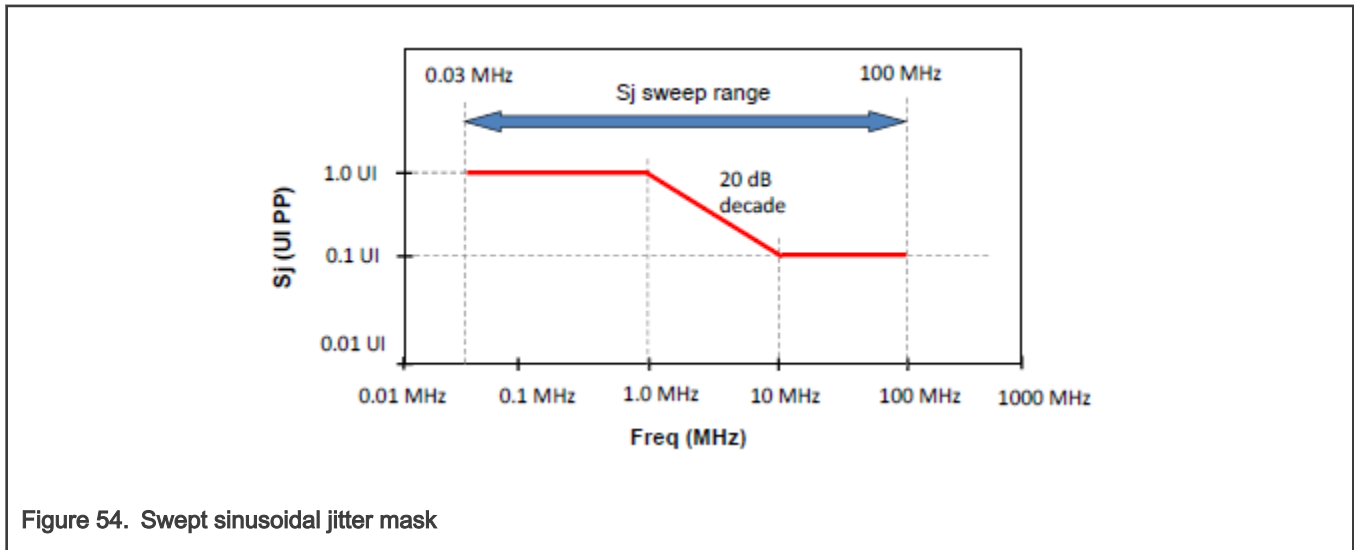

Figure 54. Swept sinusoidal jitter mask
1. Each UI is 125 ps ± 300 ppm. UI does not account for spreadspectrum clock dictated variations. 2. T _{RX-SV} is referenced to TP2P and is obtained after post-processing data is captured at TP2. T _{RX-SV} includes the effects of applying the behavioral receiver model and receiver behavioral equalization. 3. Frequency = 2.1GHz. V _{RX-SV-DIFF-8G} voltage may need to be adjusted over a wide range for the different loss calibration channels. 4. Fixed at 100 MHz. The sinusoidal jitter in the total jitter tolerance may have any amplitude and frequency. 5. See Figure 54 . 6. Random jitter spectrally flat before filtering. Random jitter (Rj) is applied over the following range: The low frequency limit may be between 1.5 and 10 MHz, and the upper limit is 1.0 GHz. Rj may be adjusted to meet the 0.3 UI value for T _{RX-SV-8G} .